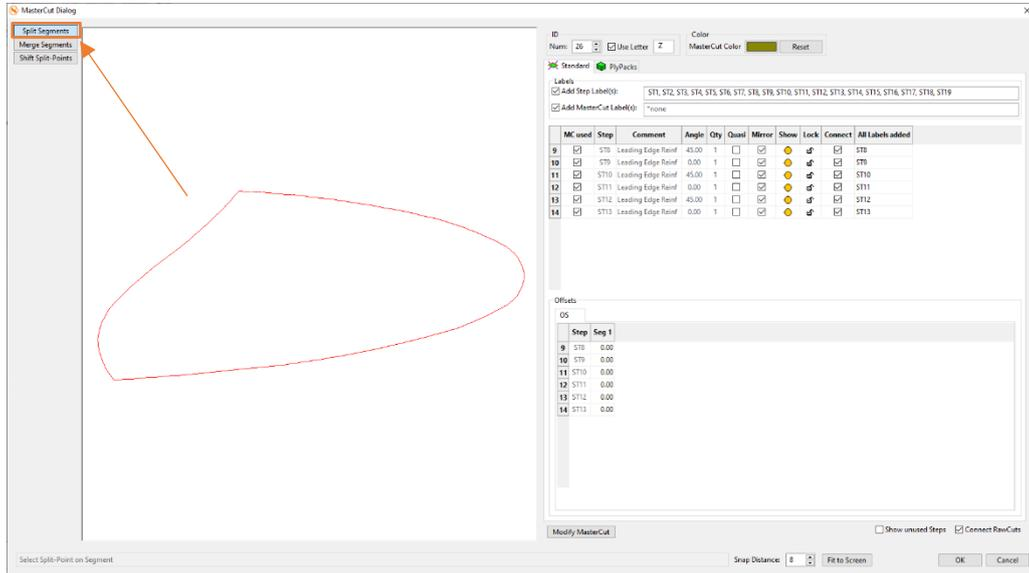

Figure 290
- 86. On the top left corner of the dialog you will find the splitting tool **Split Segments** as indicated in Figure 290.